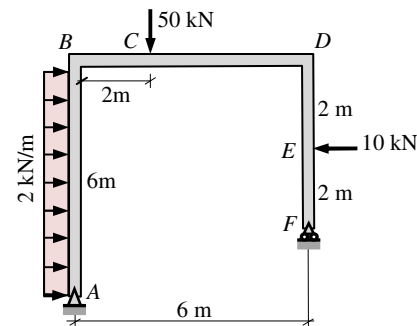

Figure 2
2. Write the shear force and bending moment equations and draw the shear force and bending moment diagrams for the plane frame depicted in Fig. 2, indicating salient values. [6]